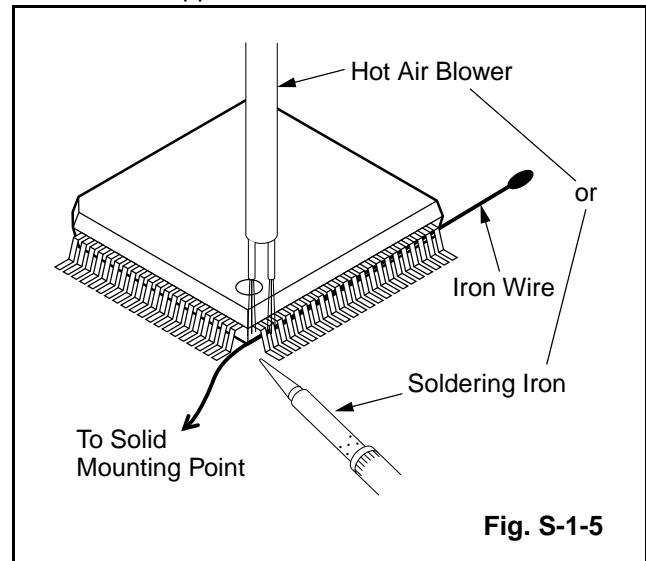

Fig. S-1-5
- (2) Affix the wire to a workbench or solid mounting point, as shown in Fig. S-1-5.
- (3) While heating the pins using a fine tip soldering iron or hot air blower, pull up the wire as the solder melts so as to lift the IC leads from the CBA contact pads as shown in Fig. S-1-5